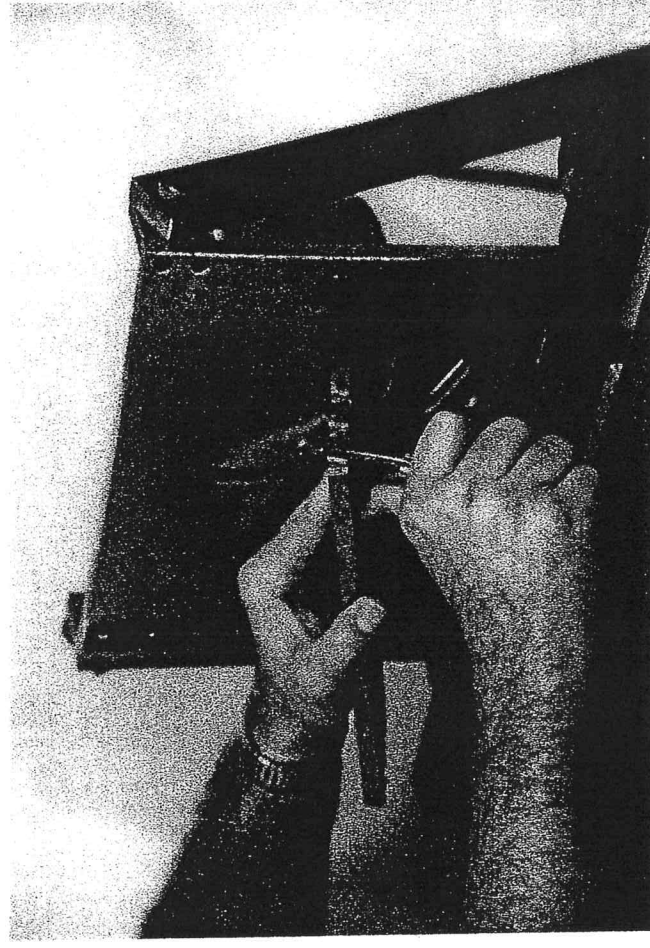

Fig. 32
13. Remove the excess material from the sides of the pins with a knife or chisel, creating smooth, angle pins. (fig. 32)